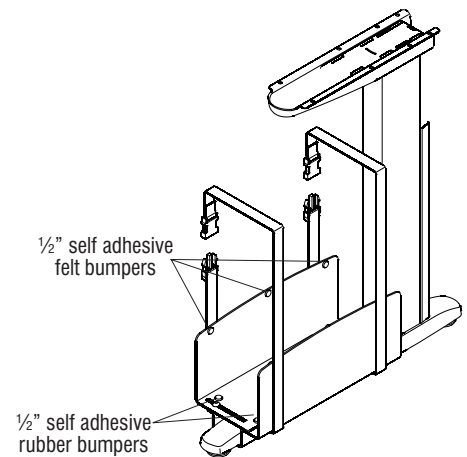

Figure 4
4. Determine location of $\frac{1}{2}$ " diameter self-adhesive bumpers and place accordingly. The rubber bumpers should be spaced equally on the horizontal surface of the CPU holder side while the felt bumpers should be placed near the top edge of both the CPU holder base and CPU holder side (Figure 4).